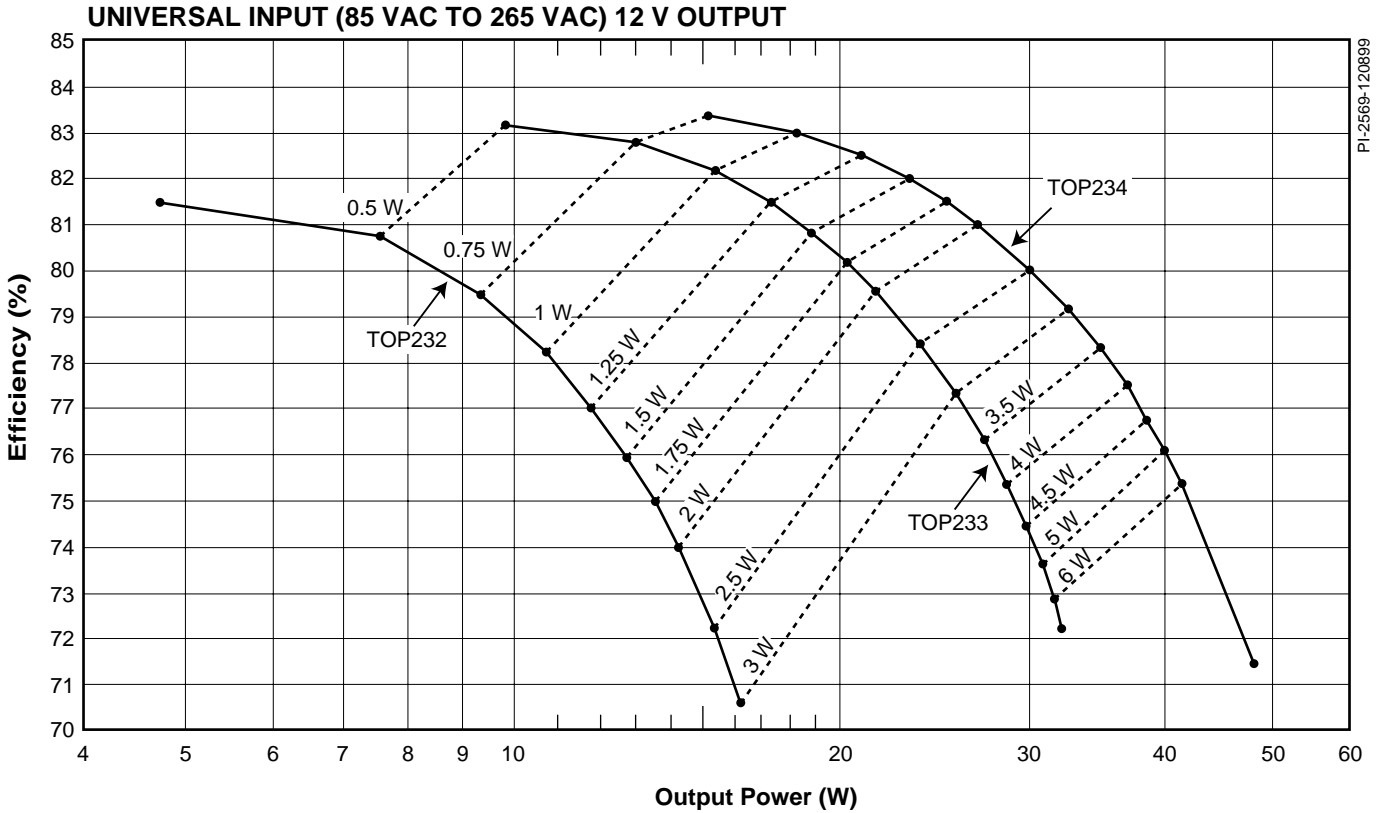

Figure 1. Efficiency vs. Output Power with Contours of Constant TOPSwitch-FX Power Loss for Universal Input and 12 V Output.
- Universal input (85 - 265 VAC) curves in Figures 1 and 2
- 1) Determine which graph (Figures. 1, 2, 3 or 4) is closest to your application.
Example: Use Figure 1 for Universal input, 12 V output.
Consider a 13 W, 12 V supply with Universal input range. From Figure 1 we see that a TOP232 and TOP233 could be used. TOP232 with an efficiency of 76% and a device dissipation
TYPICAL COMPONENT PARAMETERS FOR UNIVERSAL INPUT (85-265 VAC) POWER SUPPLY (Figures 1 and 2)
This application note has presented a simple method by which a designer can quickly select *TOPSwitch-FX* device for typical applications. For best results the design should conform to the component parameters in Tables 1 and 2. Adherence to the selection curve assumptions will allow the designer to achieve the efficiencies indicated by the solid line curves in Figures 1 through 4. Thermal requirements can be estimated from the dashed curves. Other key considerations are presented to allow the designer to achieve the best performance from *TOPSwitch-FX*.